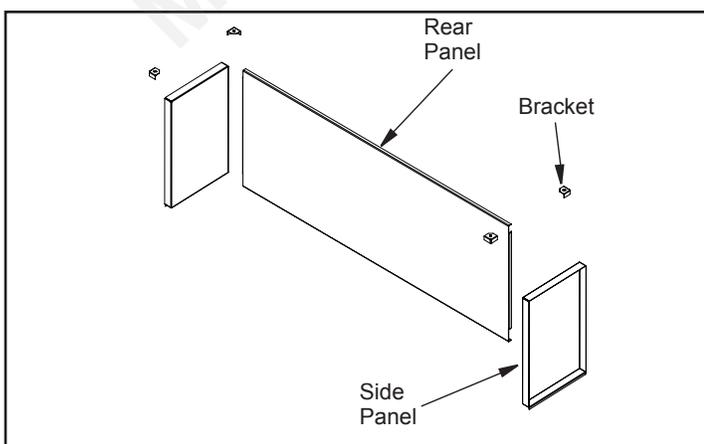

Figure 37 - Removing Rear Interior Wall for See-Thru Applications
2. Unscrew 4 corner brackets from the firebox top (See Figure 37).